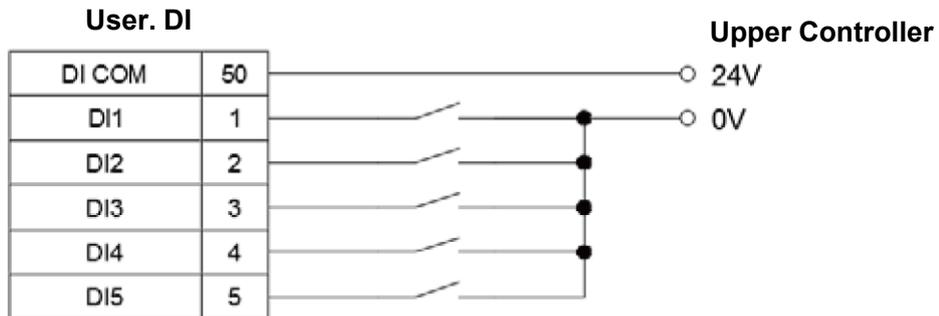

**Figure 5.33 PNP wiring when the input signal DI uses power from the DCV controller**
- Figure 5.33 shows the PNP wiring method. Connect DI COM (Pin 50) of User. DI/O (D Sub-50P) to N24G (Pin 2) of the DC output, and connect the output signals such as buttons, switches and sensors to DI.